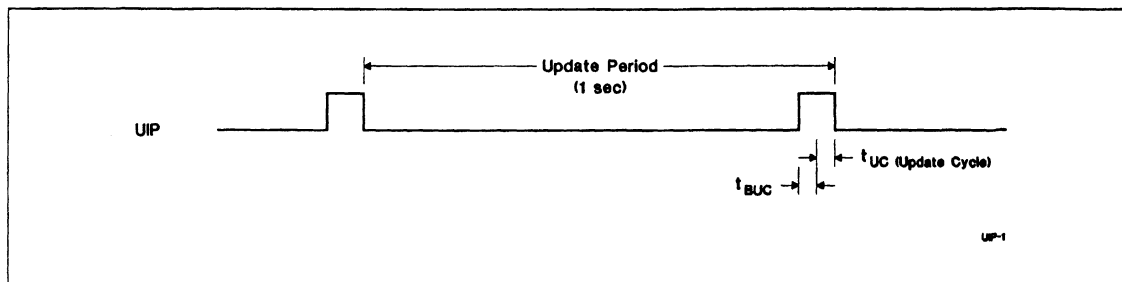

Figure 2. Update Period Timing and UIP
at the end of each update period (see Figure 2). The alarm flag bit may also be set during the update cycle.
The update-in-progress bit (UIP) in register A is set tBUC time before the beginning of an update cycle (see Figure 2). This bit is cleared and the update-complete flag (UF) is set at the end of the update cycle.